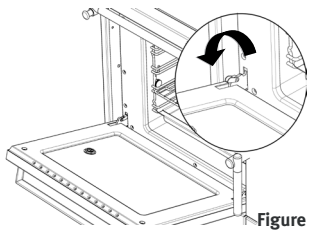

Figure 36
- Fully open the oven door. Fold the clips in the door hinges forward (Figure 36).